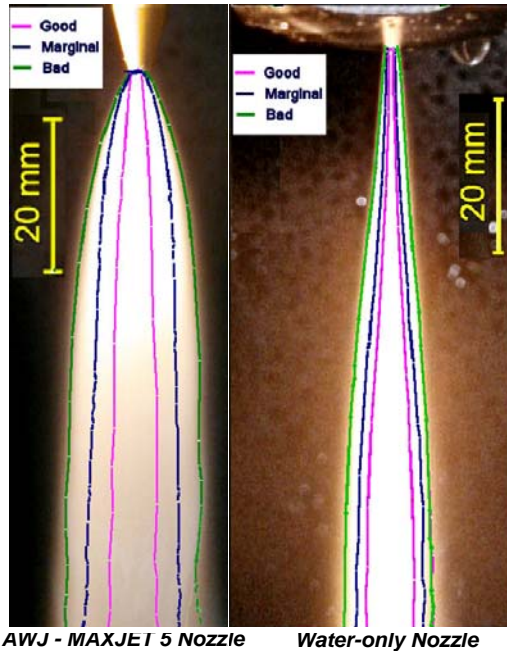

Figure 4-22: Comparison Spread of Waterjets and Abrasive-waterjets at Different Health States
- e. Refer to Figure 4-22 to see how the shape of a jet stream's shape indicates the quality of its cutting performance.